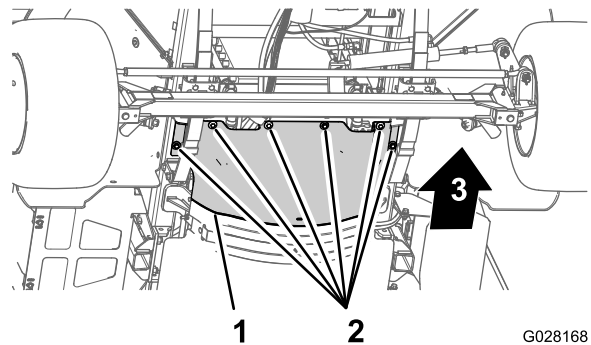

Figure 65
3. Remove the 6 hex-head bolts and 6 washers that secure the front, forward heat shield to the chassis and remove the shield (Figure 65).